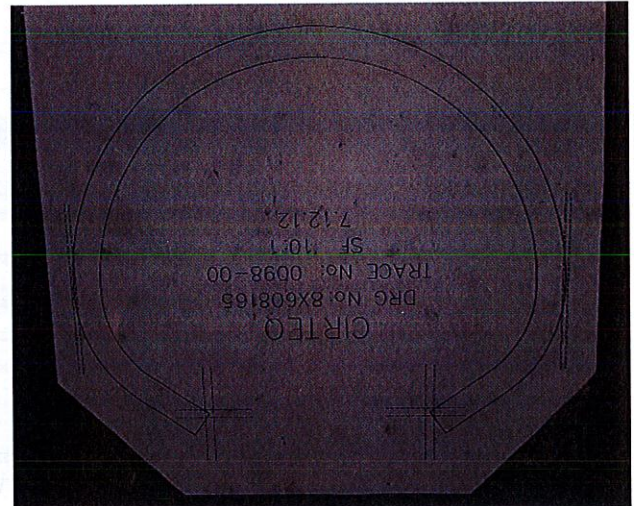

Figure 5: Trace used to lay over shadow graph projection.
6.2.5. Height. With the component on the shadow graph use the axis lines and start from the top of the part. Zero the axis on the touch screen. Wind down to the inside points of the gap. As shown in figure 5. Type the measured value into MeasurLink